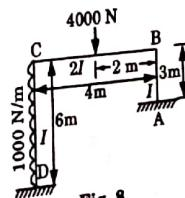

Fig. 8.
- o. Analyse the frame shown in Fig. 8 by slope deflection method.